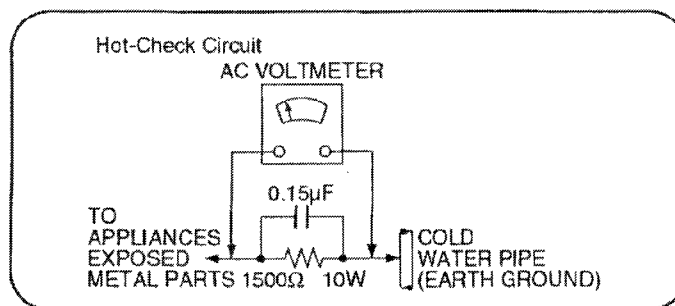

Fig. 2
2.1.2. LEAKAGE CURRENT HOT CHECK (See Figure 2.)
2. Connect a $1.5k\Omega$, 10 watts resistor, in parallel with a $0.15\mu F$ capacitors, between each exposed metallic part on the set and a good earth ground such as a water pipe, as shown in Figure 2.